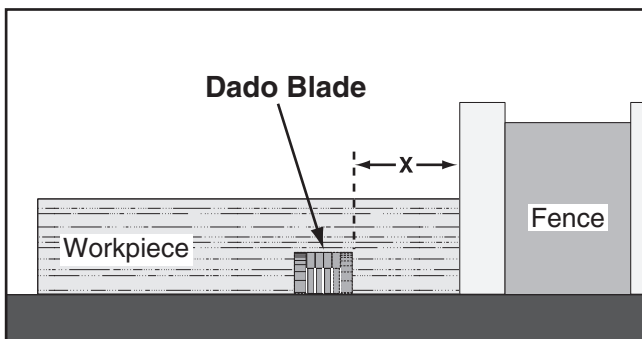

Figure 45. Example of a dado being cut with a dado blade.
3. Adjust distance between fence and inside edge of blade, as shown in **Figure 45** on **Page 34**, to dado length of a workpiece.